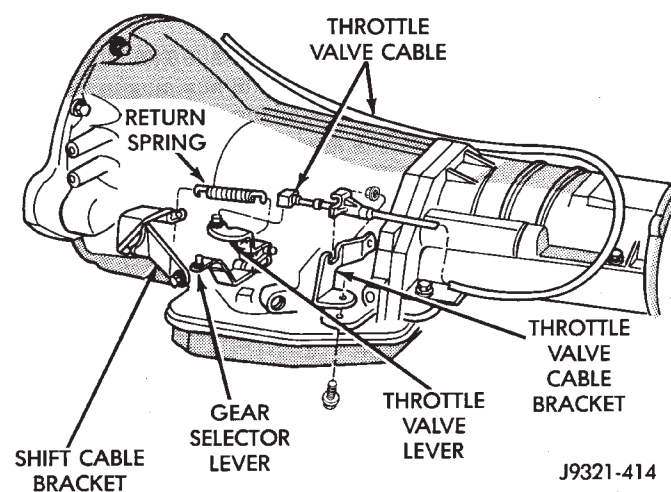

Fig. 360 Throttle Cable Attachment At Transmission
- (1) Turn ignition key to OFF position.
- (2) Remove air cleaner.
- (3) Verify that lever on throttle body is at curb idle position. Then verify that transmission throttle lever (Fig. 360) is also at idle (fully forward) position.